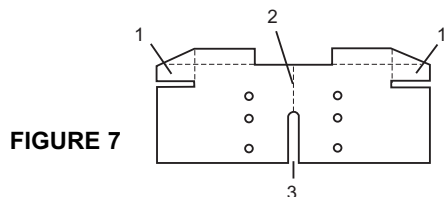

FIGURE 7
- Bend back tabs on the template (Figure 7).